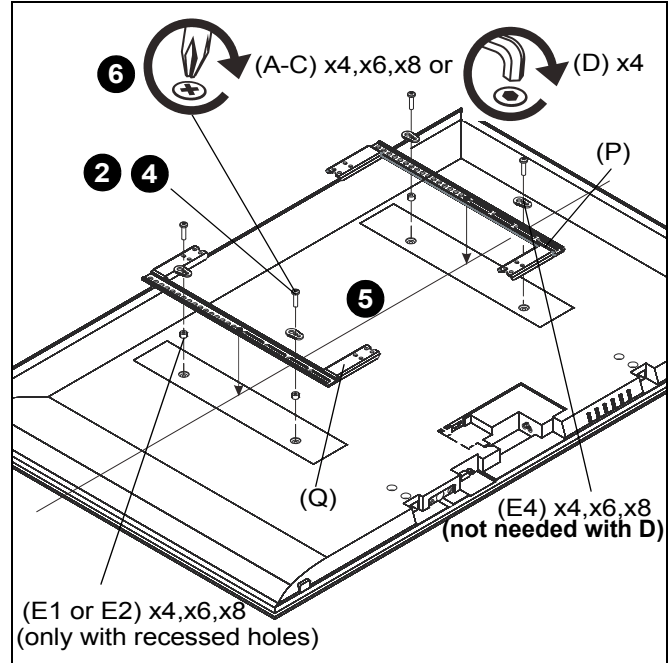

Figure 12
2. Select screw *diameter* by examining hardware (A-D) (4mm, 5mm, 6mm or 8mm) and comparing with mounting holes on display. (See Figure 12)
3. Select spacers: (See Figure 12)
4. Select screw *length*: (See Figure 12)
6. Using Phillips screwdriver, carefully install selected screws through universal washers (E4, if required), uprights (P and Q), and spacers (E1 or E2, if required), into display. (See Figure 12)